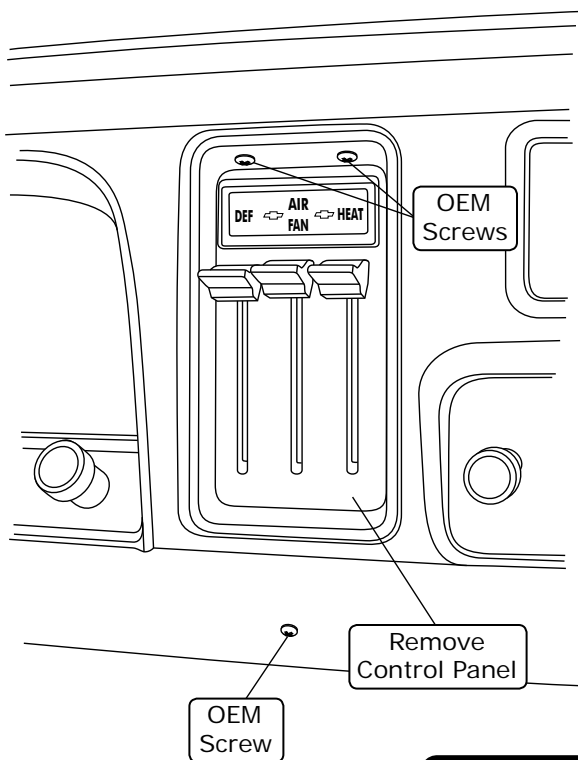

Figure 1
1. Remove the (3) OEM mounting screws from the top and bottom of the dash (discard screws) (See Figure 1, below). **NOTE: If vehicle is equipped with standard controls, remove the OEM fan switch and knob. Then remove the heater plate (See Figure 2, below).**